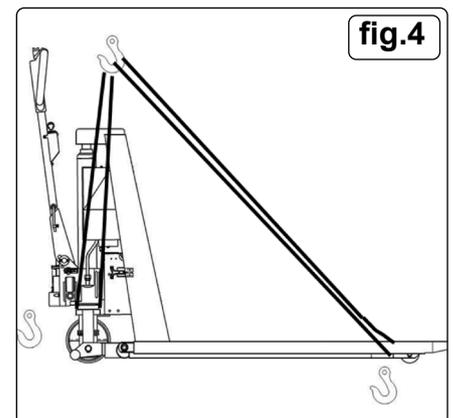

fig.4
4.7.1. Park the truck securely and lash the truck according to the points identified in fig.4
4.7.4. The lashing points are according to the fig.4